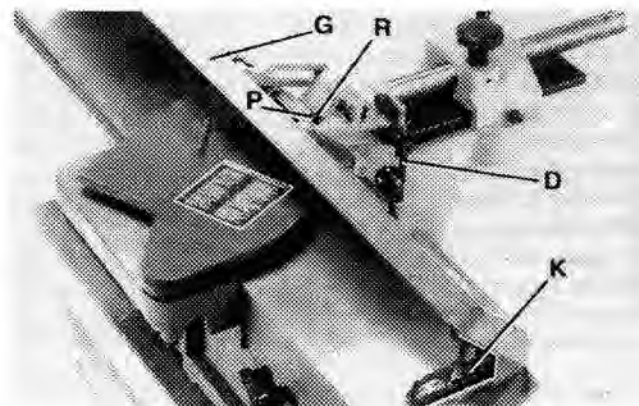

FIGURE 39
7. Tilt the fence (G) Fig. 39, inward as far as it will go and tighten locking handle (D). Using a square (K) on the table and against the fence, check if the fence is 45° inward to the table.
8. If an adjustment is necessary, loosen lock nut (P) Fig. 39. Rotate screw (R) until you are certain the fence is 45° inward to the table.